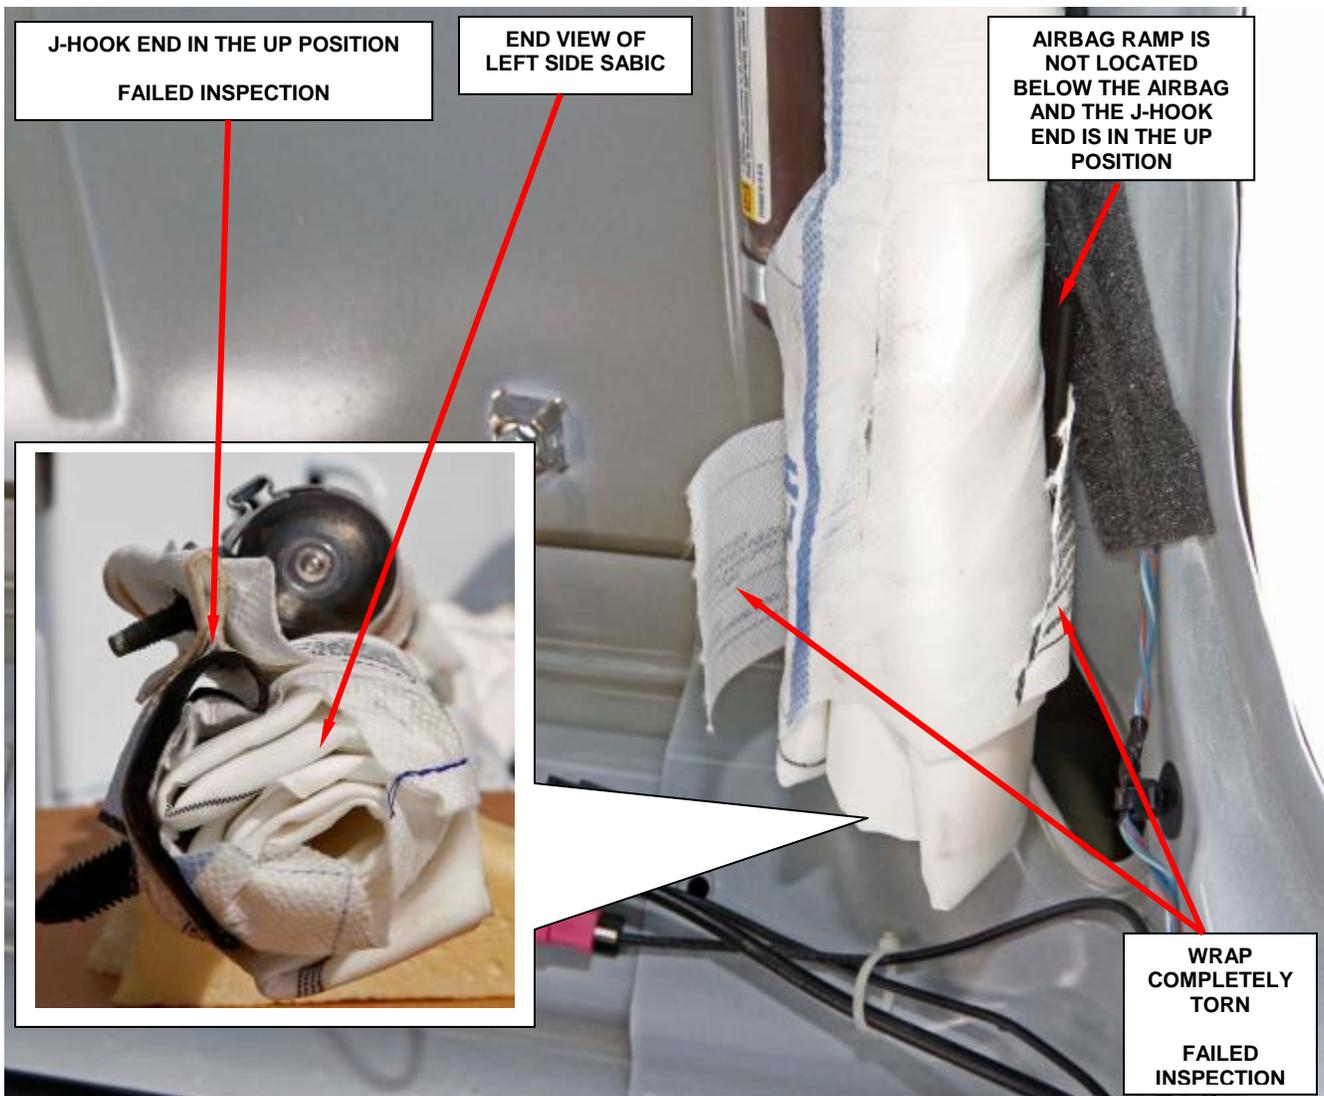

Figure 26 – Failed Inspection: Airbag Ramp and Wrap (Left Side SABIC Shown)
- Vehicles that have either airbag ramp out of position or the wrap is completely torn on either side, continue with Section C. Replace Side Airbag Inflatable Curtain's (SABIC's) (Figure 26).